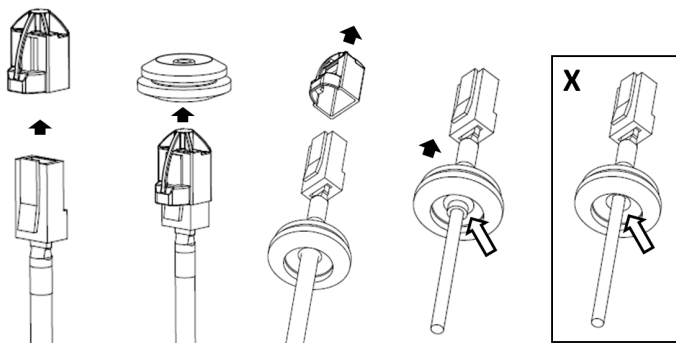

Figure 3
6. Prepare the network cable with the supplied grommet and insertion tool as shown in Figure 3.